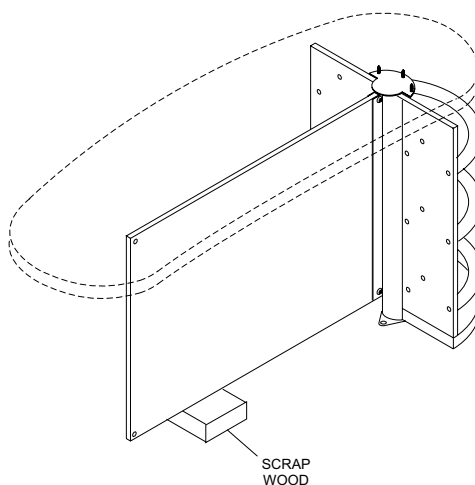

Figure 1
1. Support end of modwall being modified with block or scrap wood. Refer to *Figure 1*.